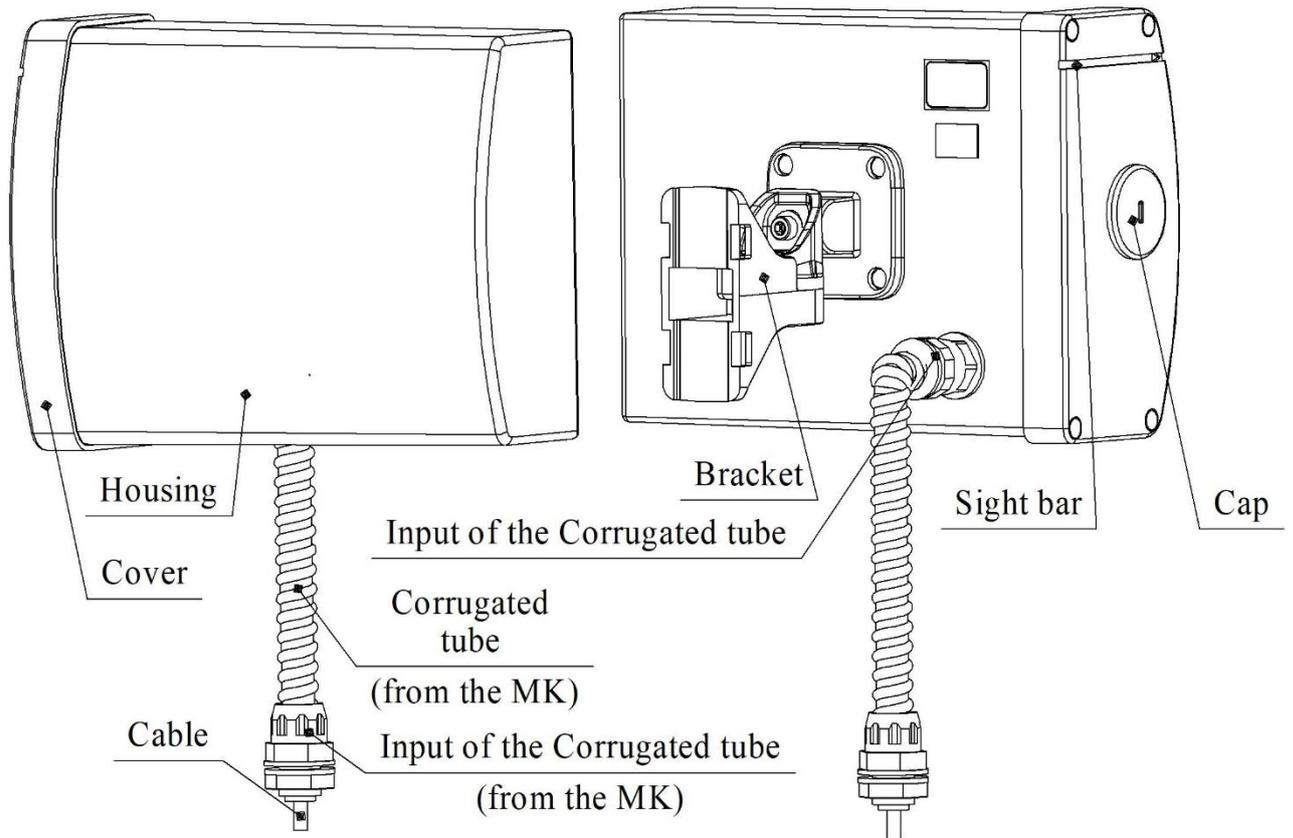

Figure 1.4 – The design of the Tx unit (Rx unit) of the sensors BARRIER-24.M50, BARRIER-24.M100, BARRIER-24.M200
- 1.4.2.1 The Tx unit (overall dimensions 195,5x154,5x100 mm) (see Figure 1.4) contains a plastic housing with a microwave module and a modulator with configuration elements. The housing contains a parabolic insertion. The housing is closed with a cover. On the bottom face of the housing there are two holes preventing the condensate inside the Tx unit. On the cover there is a sight bar to make it easy to adjust the sensor. The configuration elements are covered with a cap. The cap is protected against unauthorized opening with a button. On the back face of the housing there is a bracket for pole mounting of the unit. Use the 5-core cable brought out from the unit through the input of the corrugated hose to connect the Tx unit to the junction box or power supply unit.
- 1.4.2.2 The Rx unit (overall dimensions 195,5x154,5x100 mm) (see Figure 1.4) contains a plastic housing with a microwave module and processing board with configuration elements. The housing contains a parabolic insertion. The housing is closed with a cover. On the bottom face of the housing there are two holes preventing the condensate inside the Rx unit. On the cover there is a sight bar to make it easy to adjust the sensor. The configuration elements are covered with a cap. The cap is protected against unauthorized opening with a button. On the back face of the housing there is a bracket for pole mounting of the unit. Use the 8-core cable brought out from the unit through the input of the corrugated hose to connect the Tx unit to the junction box or power supply unit.